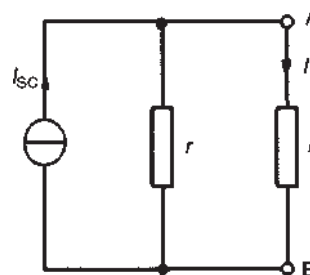

Figure 13.53
Note the symbol for an ideal current source (from BS EN 60617-2: 1996, which superseded BS 3939-2: 1985), shown in Fig. 13.53.
- (iv) determine the current I flowing in resistance R from the Norton equivalent network shown in Fig. 13.53, i.e.